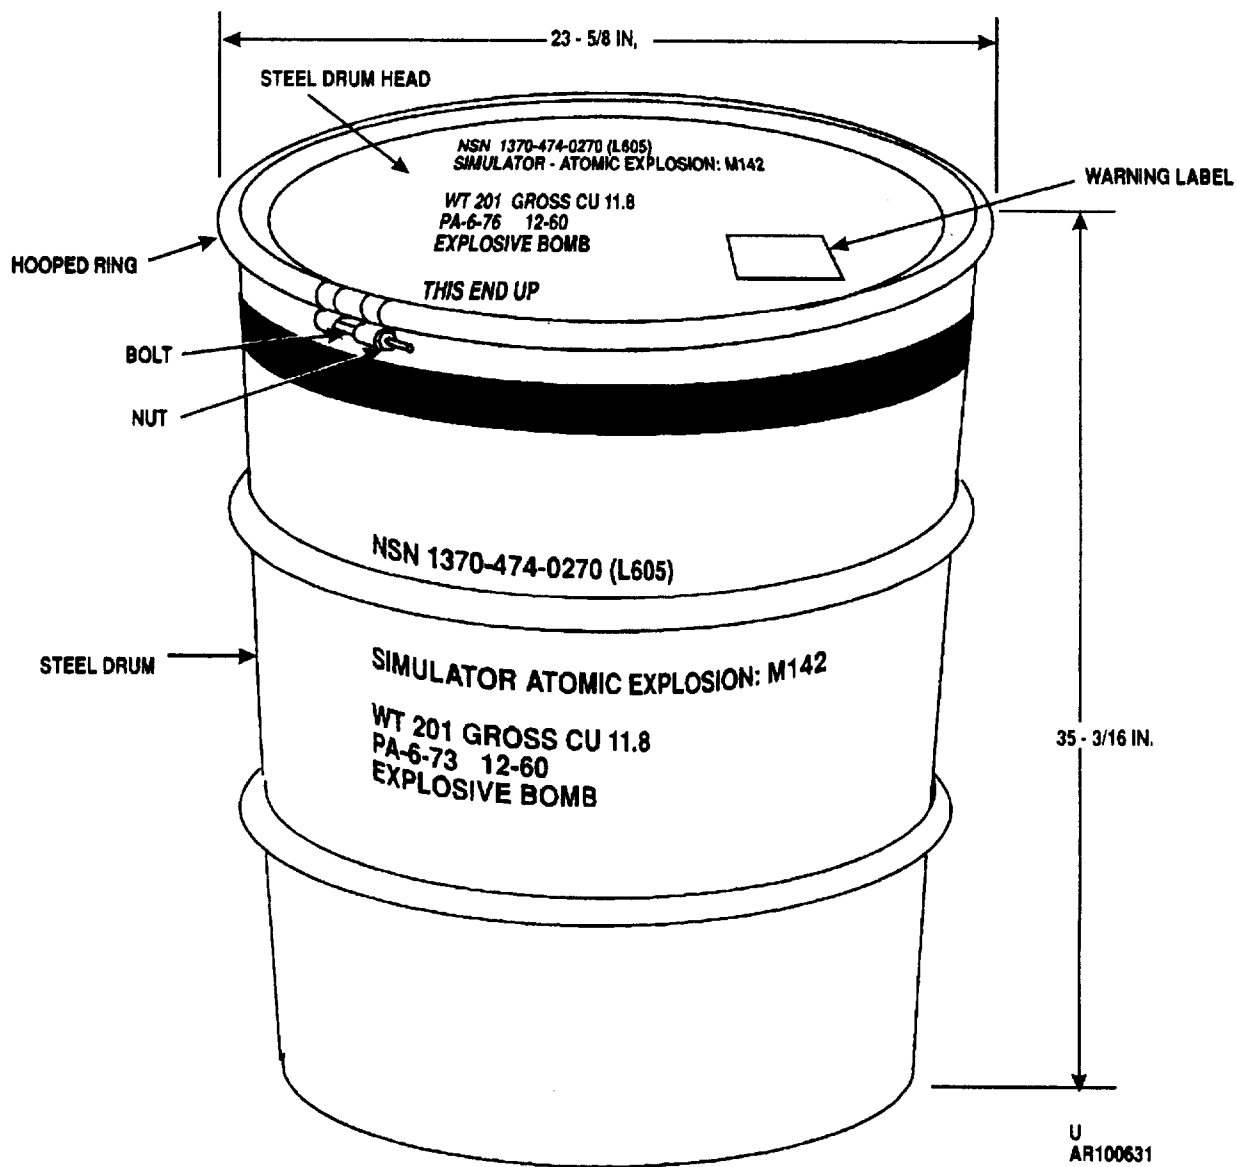

Figure 2-1. Atomic explosion simulator M142.
c. The following information must be legible on each box; and on steel drum of M142 Atomic Explosion Simulator (see fig. 2-1).
- (1) National (or Federal) Stock Number (NSN or FSN).
- (2) Department of Defense Identification Code (DODIC) (repeated on ends of box.) (3) Department of Transportation (DOT) designation.
- (4) Quantity.
- (5) Nomenclature.
- (6) Lot number (repeated on ends of box).
- (7) Month and year loaded.
- (8) Gross weight.
- (9) Cubical displacement.